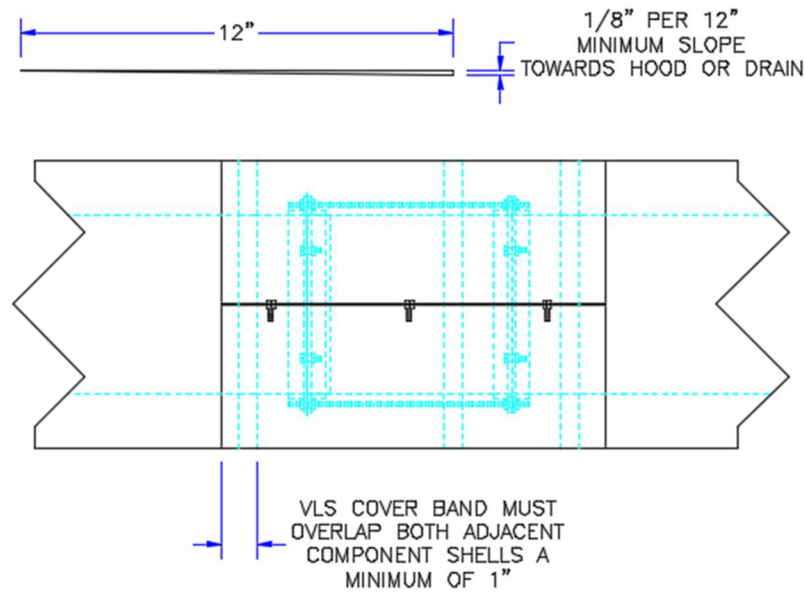

Figure 11: Install the VLS shell.
21. Install the VLS cover band by centering the two halves over the entire length of the exposed insulation, making sure to overlap each adjacent component's shell. The cover band may require field-trimming when used between two fittings. If so, cut both halves of the VLS shell so that it overlaps each adjacent component's shell a minimum of 1". Fasten the two VLS half shells together with the provided nuts and bolts. (See figure 11)